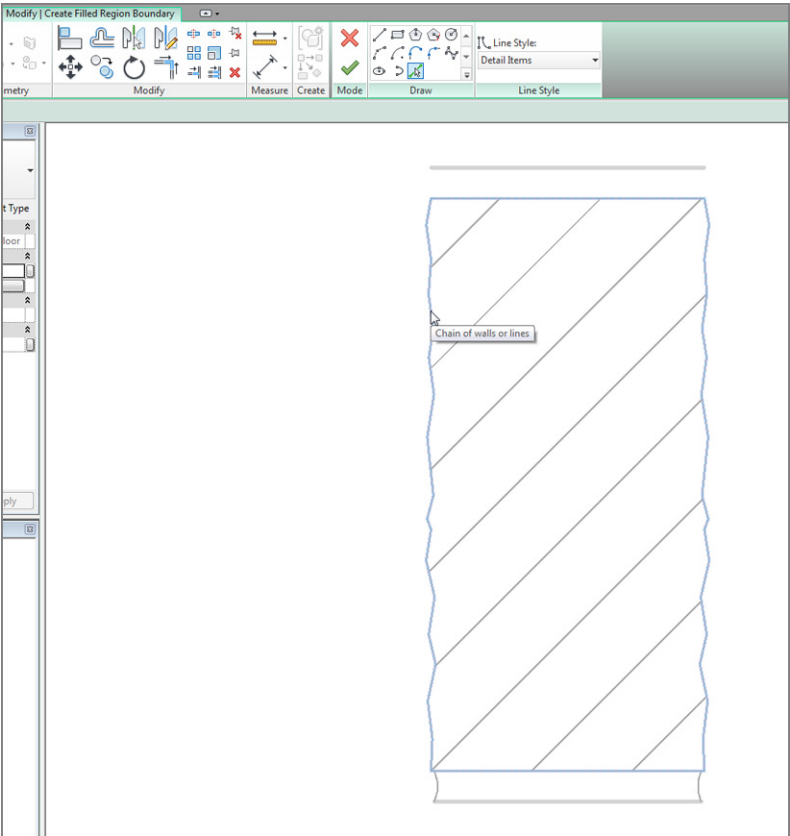

FIGURE 12.27: Press Tab to select the chain of lines, as shown here.
11. On the Draw panel, click the Pick Lines button, as shown in Figure 12.27.
13. Pick any one of the lines (see Figure 12.27). Revit draws the region based on these points.